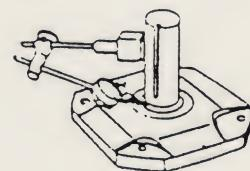

Figure 4
F. For best performance, seat the seal square with shaft within .005" at 180°. Check with dial indicator as shown in Figure 4, Page 2, or with a straight edge and feelers, or square and feelers. To straighten a cocked seal, place tubing over the seal and tap the tube lightly at a point diametrically opposite the low point on the seal. DO NOT strike seal directly.